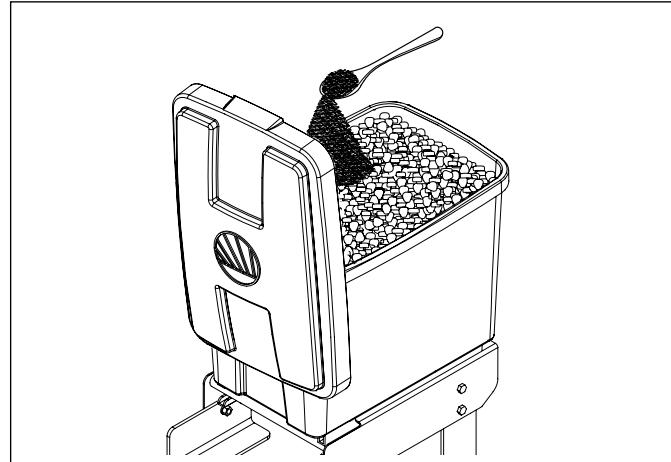

Figure 17
4. Park the lid on the front lip of the hopper, using the hook-plate feature inside the lid (see Figure 17 on page 25).